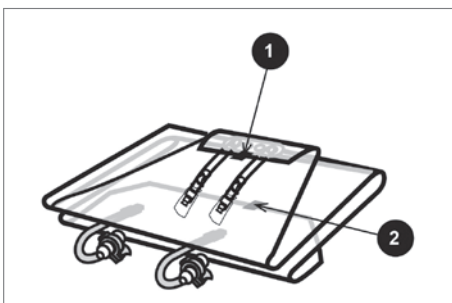

Fig. 7
7. Remove any adhesive tapes or protective foams from the Flexsafe® 3D Bag without unfolding the bag (see Fig. 7).